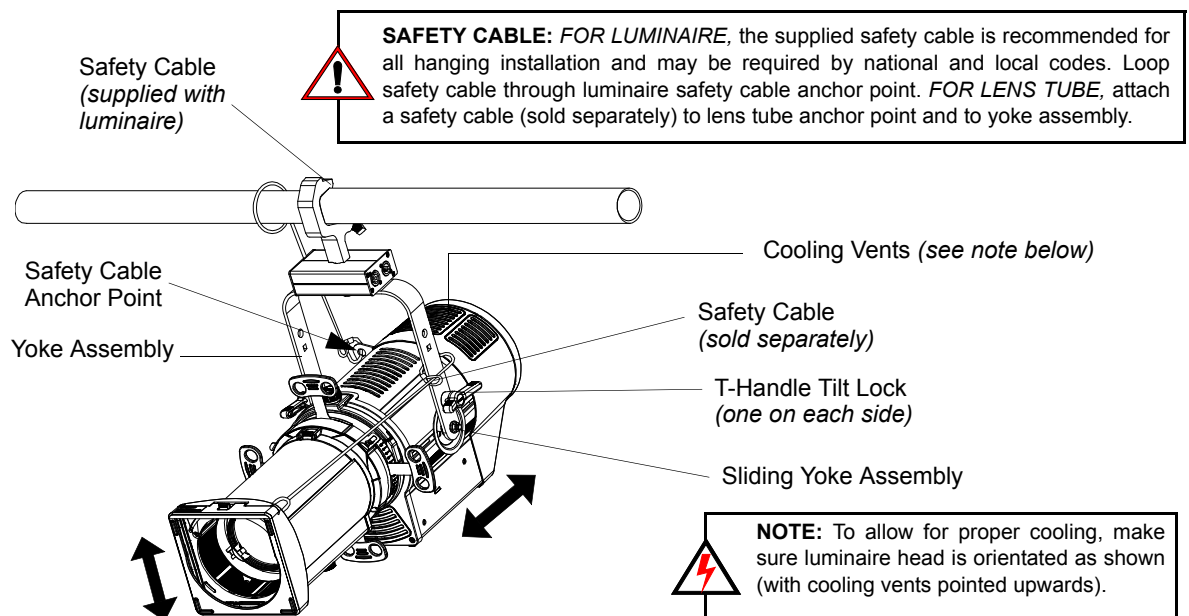

Figure 4: Luminaire Tilt Adjustment
The supplied safety cable **MUST** always be used when rigging luminaires on bars, truss, etc. (as shown in **Figure 4**). *FOR LUMINAIRE*, the supplied safety cable is recommended for all hanging installation and may be required by national and local codes. Loop safety cable through luminaire yoke assembly as shown and attach to structure. *FOR LENS TUBE*, attach a safety cable (sold separately) to lens tube anchor point and to yoke assembly. You should always consult and follow all local and national codes and regulations for mounting and installation of luminaire.
WARNING! If your luminaire is equipment with the eyelet as indicated in **Figure 4**, **DO NOT attach safety cable to this eyelet on luminaire body**. This eyelet feature was included for another purpose other than the safety cable and will be removed from future production models.
PLPROFILE4 MKII LED Luminaires offer variable tilt settings. The unit can be set at a specific angle (in relation to its mounting position) or at an angle between 0 to 90 degrees. When the yoke is in the position shown in **Figure 4**, you have full range access to shutters the gate etc. If you flip the yoke over some access is reduced but the over all volume the luminaire takes up is reduced. This is particularly useful in tightly hung lighting positions or in theatres with low grids.
- Step 2. Loosen, but do not remove, T-Handle Tilt Locks at base of yoke assembly as shown in **Figure 4**.